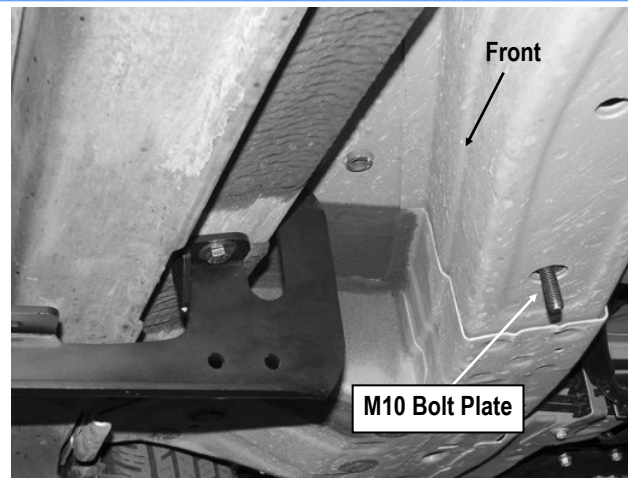

Fig 4
Select (1) M10 Bolt Plate. Insert the Bolt Plate into the factory hole in the bottom of the frame channel, (**Fig 4**). Rotate the Bolt Plate clock-wise 90-degrees or until it stops turning.